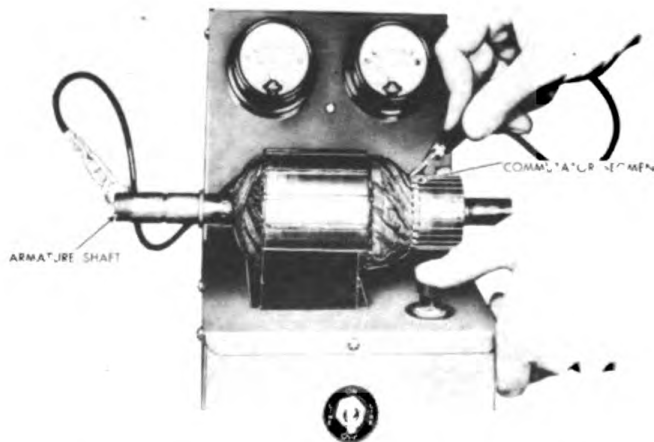

Figure 237. Testing Armature for Grounds.
- b. Check the test lamp and test points from the commutator to the armature shaft or lamination. If the lamp lights, indicating ground, and if the ground is not readily apparent and repairable, the armature must be replaced. See figure 237.